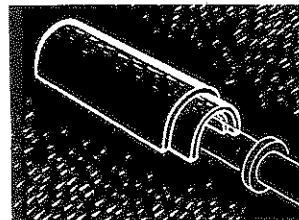
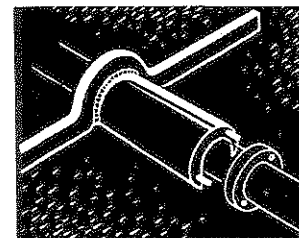

Figure 10
Figure 11
- (b) Unscrew the spring follower (10, Figure 3) with the spanner (Figure 11).
10. Reassemble Top Bowl Oil Lubricated Type (Figure 3) as follows: (a) Place on shaft the top bowl impeller and lock (8 and 9, Figure 1) as described above. (b) Place on shaft in the following order: Spring follower (10, Figure 3); spring (11, Figure 3); brass washer (12, Figure 3); "U" leather ring (13, Figure 3) with open part toward top of shaft. On shafts of 1-1/2" diameter and larger, place approximately 3/4 oz. of approved water-resistant grease. On smaller shafts place 3/4 oz. of 1/2 approved water-resistant grease and 1/2 graphite base. "U" leather ring (14, Figure 3) with open part toward bottom of shaft; "T" ring (15, Figure 3) with leg toward top of shaft; "U" leather ring (16, Figure 3) with open part toward bottom of shaft. (c) Place top bowl (19, Figure 3) on shaft and push top bowl seal assembly into hub of shaft with seal pusher (Figure 10). Screw spring follower into place with spanner (Figure 11) and lock by staking material of spring follower into nick in lower surface of bowl hub. (d) Bring top bowl into position to fasten top bowl flange studs into holes in standard bowl flange. Bolt into place. (e) Screw lower bronze tubing bearing (20, Figure 3) into